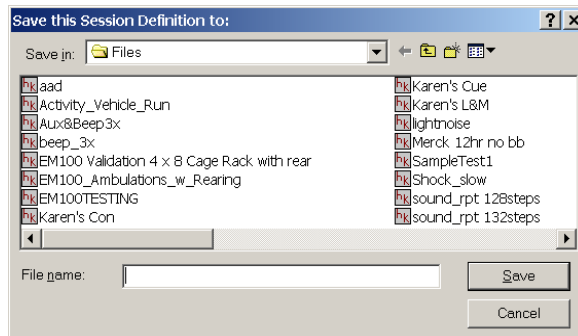

Figure 2-4. Naming a Saved Session File
- 12.** If you want to save this session for running later, select the **File** menu, then select **Save As**. A screen will appear as shown in Figure 2-4.